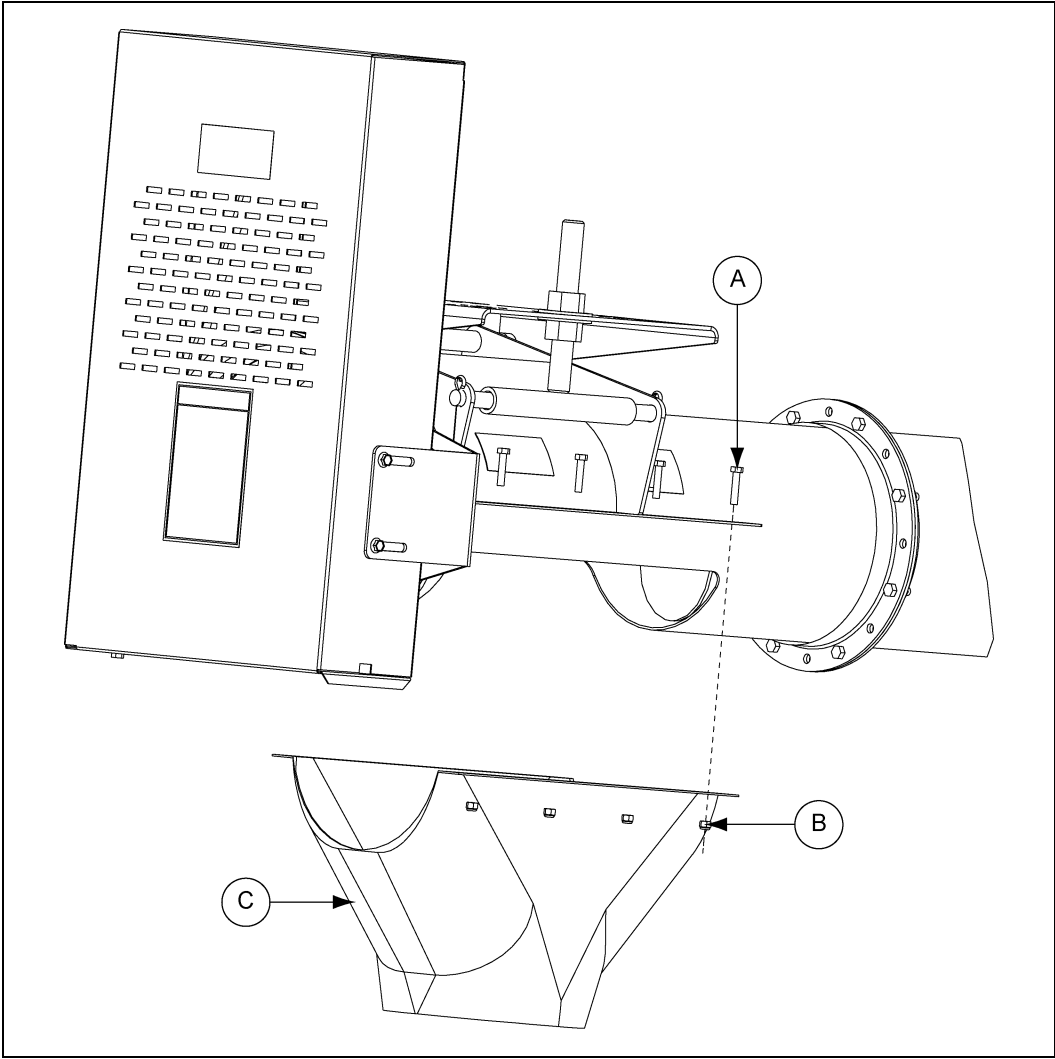

Figure 4J
- 3. Fix with hardware as shown in Figure 4J.